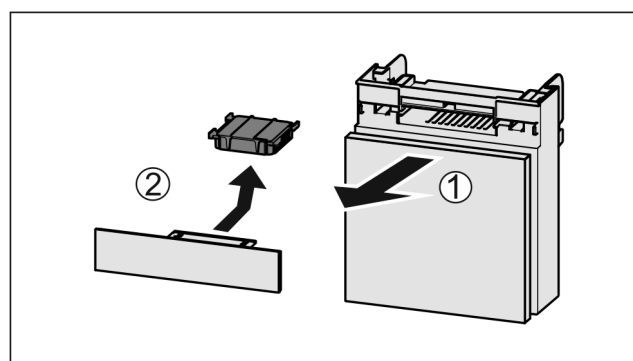

Fig. 73
- Pull out the compartment Fig. 73 (1).
- Remove the carbon filter Fig. 73 (2).